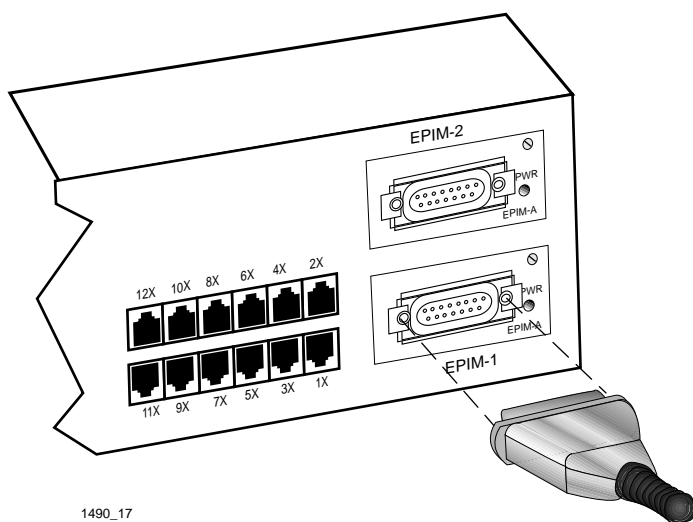

Figure 4-5. The EPIM-A
3. Connect the AUI cable to the EPIM-A. (See Figure 4-5.)